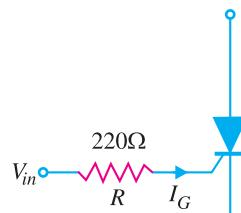

Fig. 20.6
**Example 20.4.** A  $220\Omega$  resistor is connected in series with the gate of an *SCR* as shown in Fig. 20.6. The gate current required to fire the *SCR* is 7mA. What is the input voltage ( $V_{in}$ ) required to fire the *SCR*?